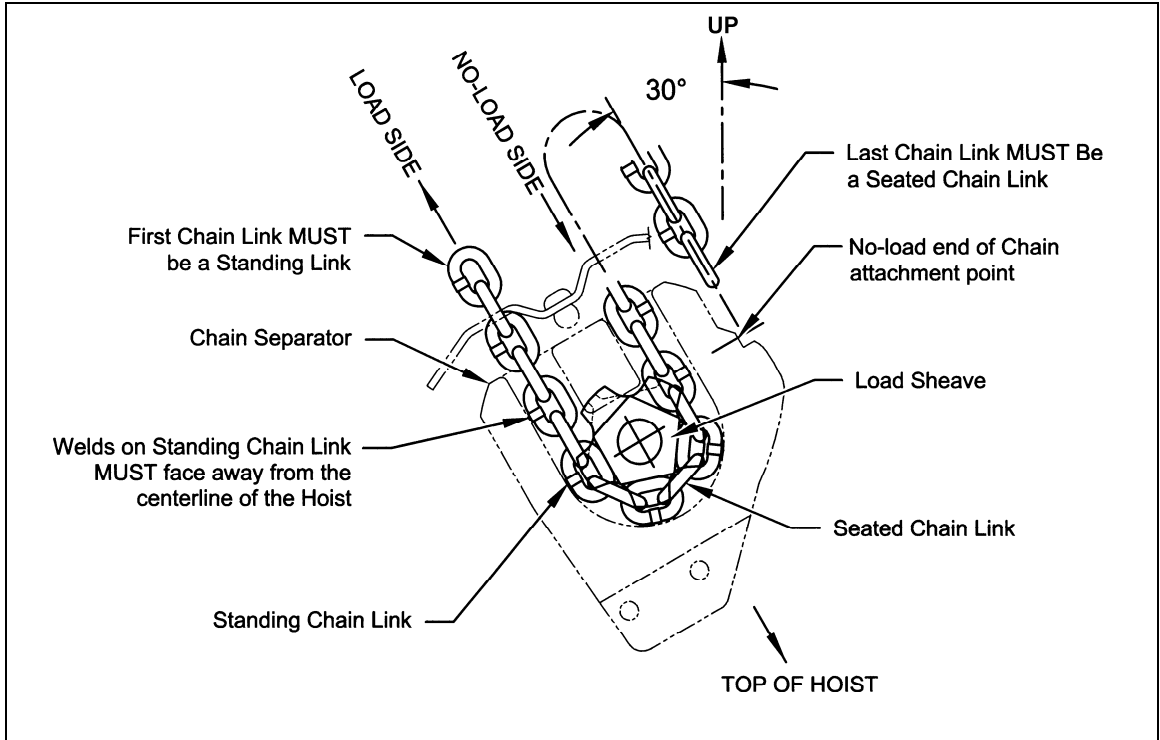

Figure 7-2 Load Chain Installation Diagram
- 10) **⚠ CAUTION** Invert the hoist such that the chain separator openings are facing up and tilt the hoist approximately 30° as shown in Figure 7-2. Insert the chain into the chain separator on the no-load side opening making certain that the first link is a standing link and that its weld is facing away from the centerline of the hoist.